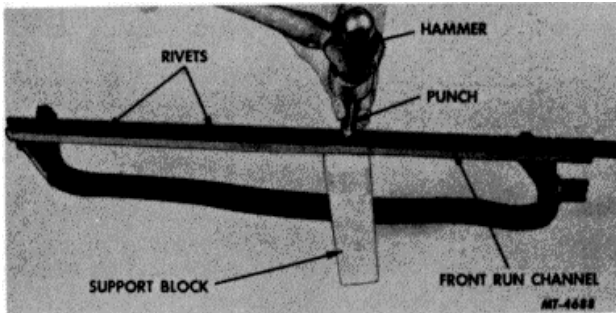

Fig. 19
8. Center punch four rivet heads inside front run channel, Fig. 19.